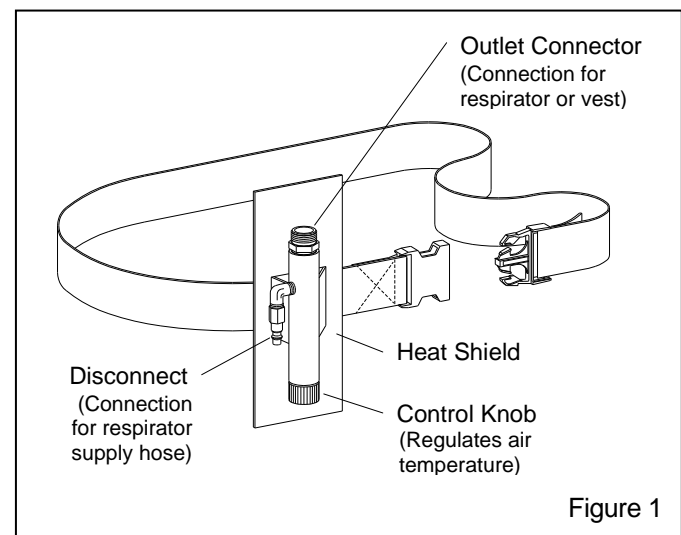

Figure 1
1.5.1 The CAT Cool-Air Tube is an approved alternate air control valve, which provides the user with a source of cool air when used in conjunction with a Clemco supplied-air respirator or Comfort Vest. The illustration in Figure 1 shows components and controls for the cool-air tube.